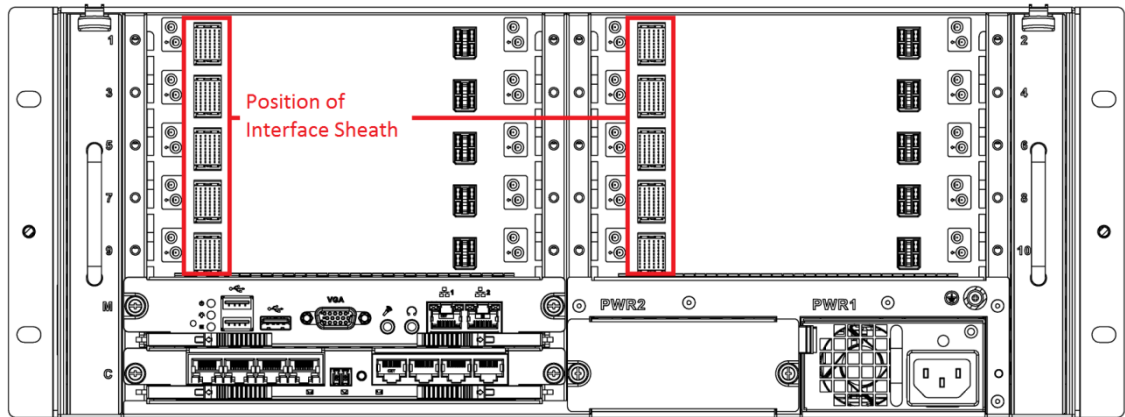

Figure 1-5
Step 1 Remove interface sheath on rear panel of the case, as shown in Figure 1-5.